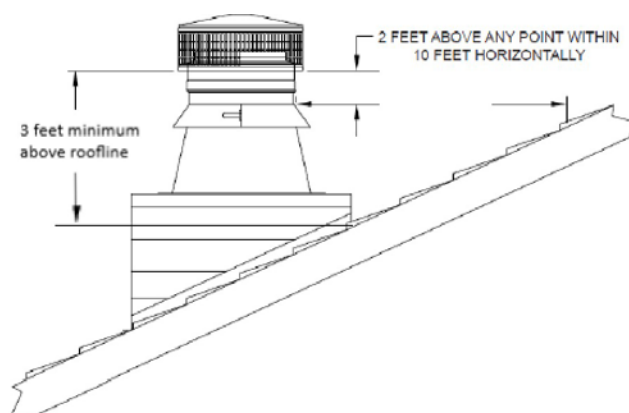

FIGURE 60
10. Termination: NFPA 211, "Standard for Chimneys, Fireplaces, Vents, and Solid Fuel-Burning Appliances", states that chimneys shall extend at least three feet above the highest point where it passes through the roof of a building, and at least two feet higher than any portion of a building within ten feet. **(Figure 60)**